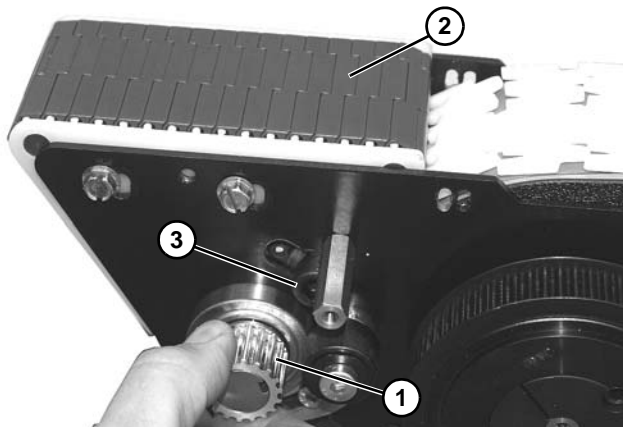

Figure 177
- Rotate drive shaft (**Figure 177, item 1**) to verify tightness of belt (**Figure 177, item 2**). Belt should turn freely. Loosen idler socket head screw (**Figure 177, item 3**) and adjust, if necessary.